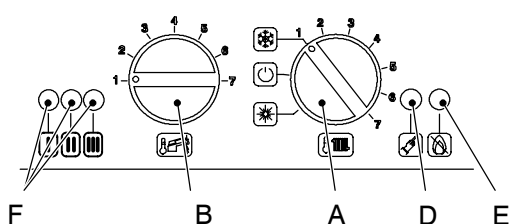

Fig. 12
- 1 Turn the boiler ON positioning the function selector knob A as indicated in Fig. 12.